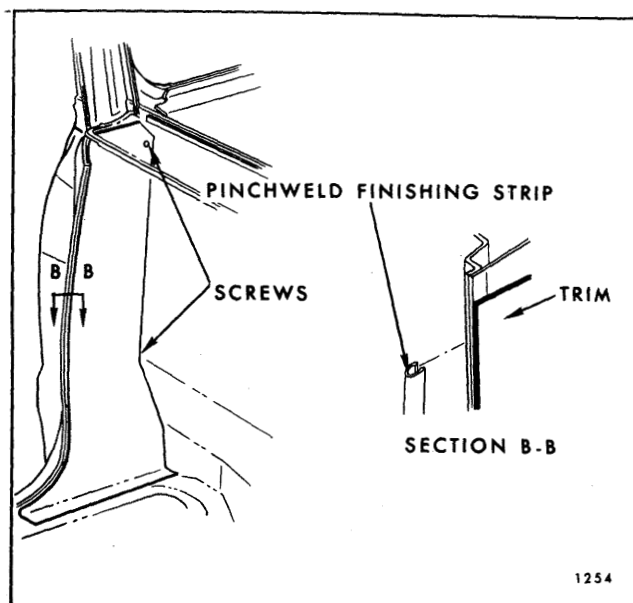

Fig. 8-7—Rear Quarter Trim Assembly - "A-80" Styles
2. Detach rear body lock pillar pinchweld finishing strip (see section "B-B" in Fig. 8-7) and remove front door sill plate.
3. Remove screws securing rear quarter trim to body panel and remove assembly from body (see Fig. 8-7).